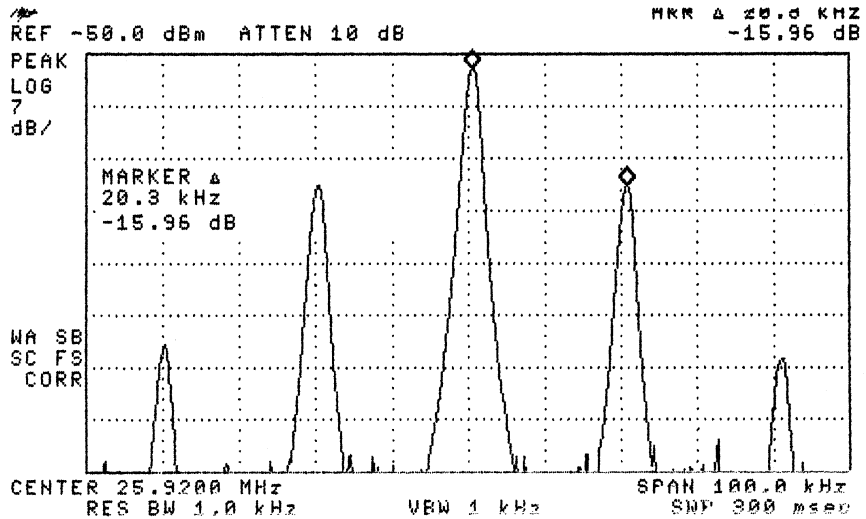

Figure 3-10 Carrier to Sideband Ratio Example
- 34** Adjust the OmniBER's jitter amplitude (approximately 7.52 UI) until the 4th **Bessel Null** is observed on the Spectrum Analyzer i.e 4th dip in the carrier level (see Figure 3-10). For STM-1 use 7.52 4th null, STM-4 use 11.52 UI, 6th null. For STM-16 use 9.52 UI, 5th null.